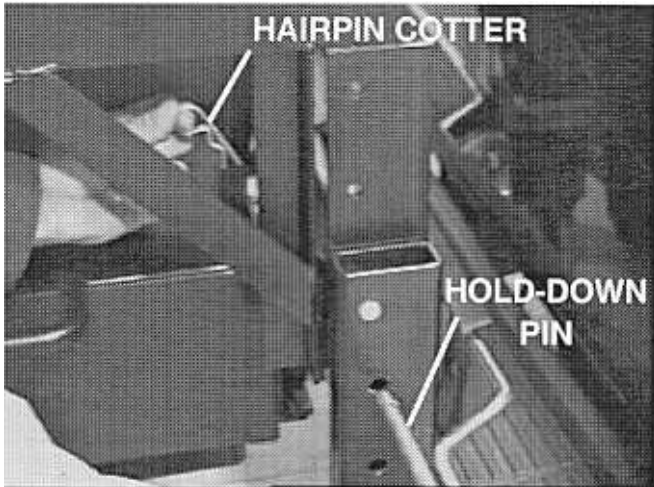

Figure 15
4. Insert hold-down pins on each side and secure with hairpin cotters. See Figure 15.